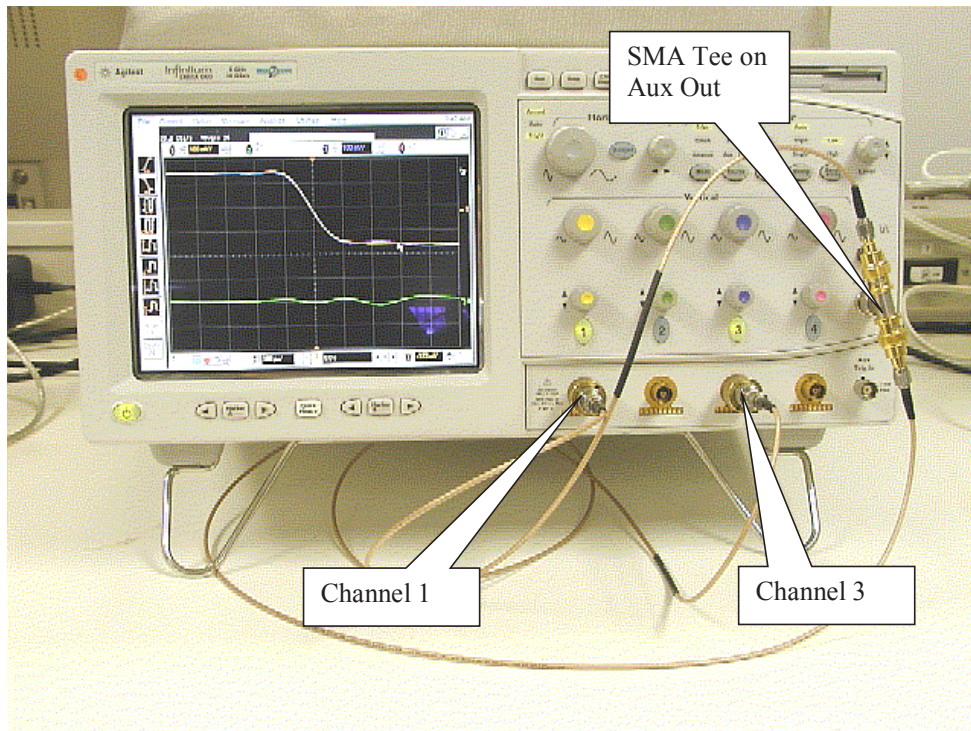

Figure 122 De-skew Connection.
- 1** Referring to Figure 122 below, perform the following steps: